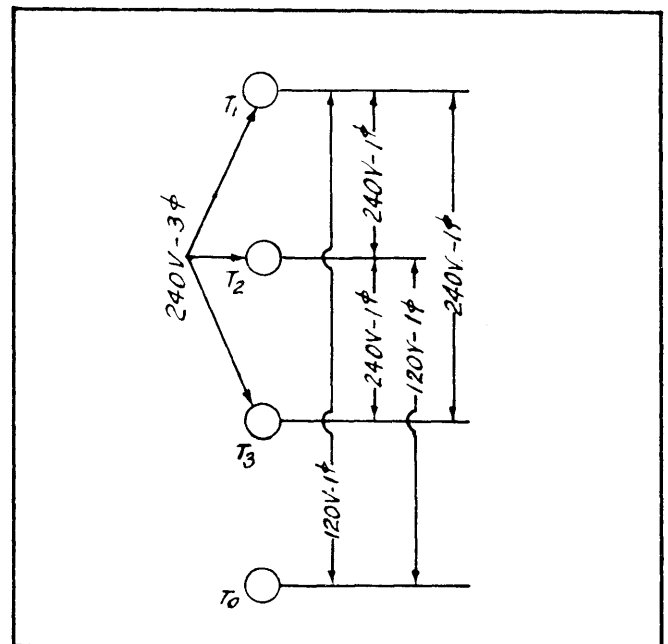

FIGURE 15. 3 PHASE, 4 WIRE DELTA CONNECTION
**120/240 Volt, 3 Phase, 4 Wire Delta Connected Plant (Figure 15):** The 3 phase Delta connected plant is designed to supply 120 volt, single phase current and 240 volt, 3 phase current. For single phase operation, connect the three load wires to the three plant terminals T1, T2 T3 – one wire to each terminal. For 3 phase operation the T0 terminal is not used.